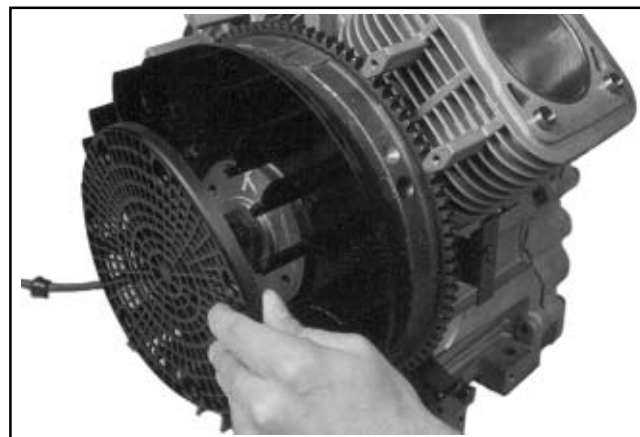

Figure 11-31. Installing Plastic Grass Screen.
1. If the engine has a plastic grass screen, snap the screen onto the fan. See Figure 11-31. Due to the possibility of damaging the posts during removal, install the retainers on different posts from which they were removed. Start the retainers by hand, then push them down with a 13 mm (1/2") socket until they lock. If the engine has a metal screen, it will be installed later.